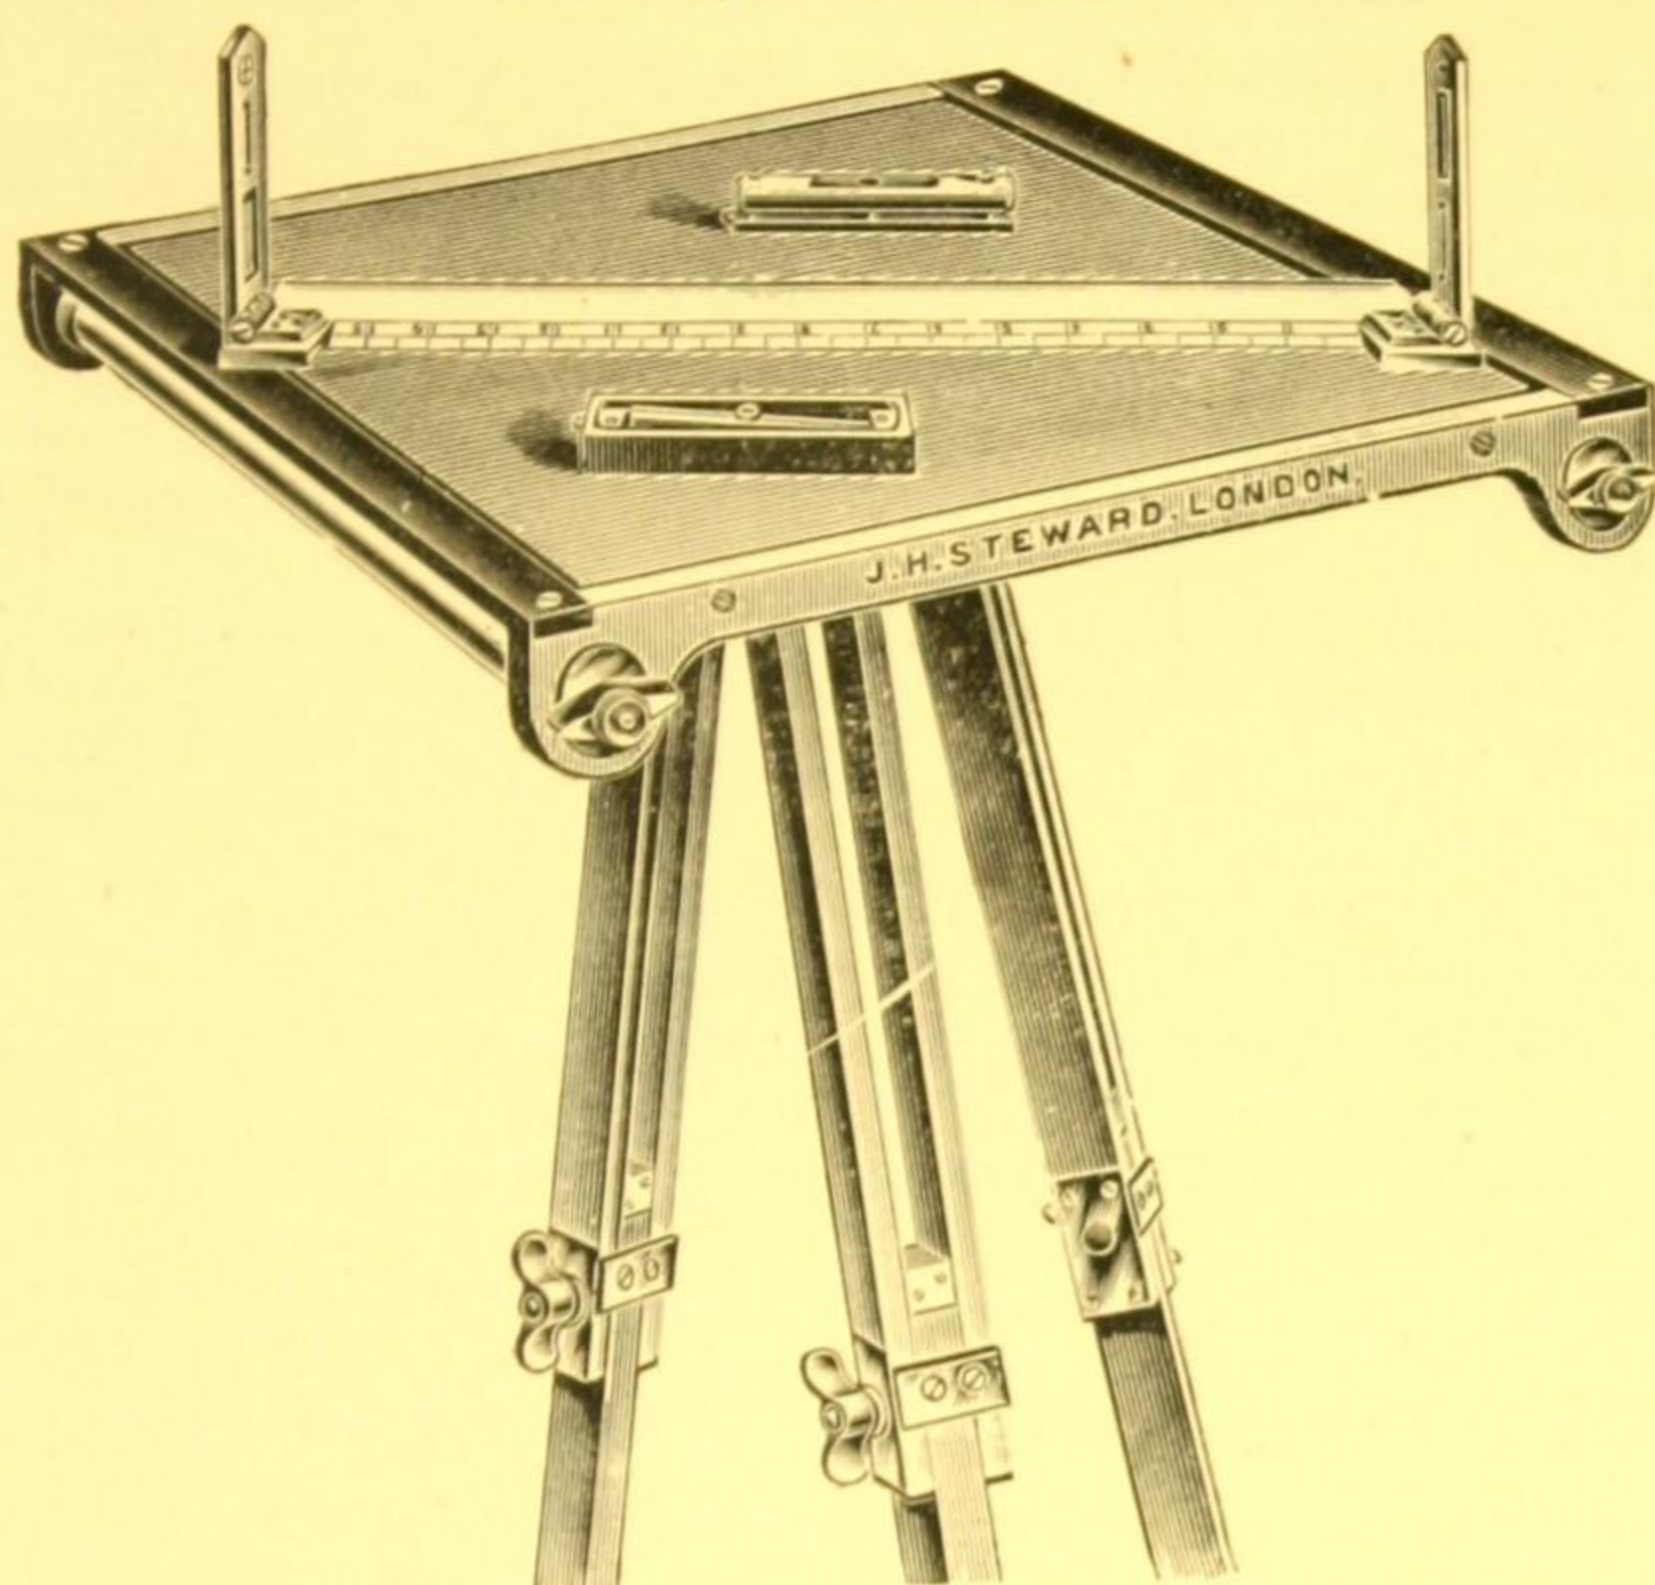

Fig. 26. Topographer's Plane Table.
- SM 121. Complete Outfit.... Fig. 26... **£23 10 0**
- SM 122.—**The Topographer's Plane Table** to take roll of paper 18 inches wide, with a working surface of 24×18 inches. Tripod with telescopic legs as Fig. 26 ..... **£15 0 0**
- SM 126.—**The "C.E." Plane Table Outfit.** Board  $24 \times 18$  inches with metal battens. The paper is pinned on to the board. Firm tripod with telescopic legs as in illustration, Fig. 26, for levelling. A fitting underneath the board goes into a socket in the head of the tripod, and the board can be rotated and clamped in any position ..... **£10 10 0**